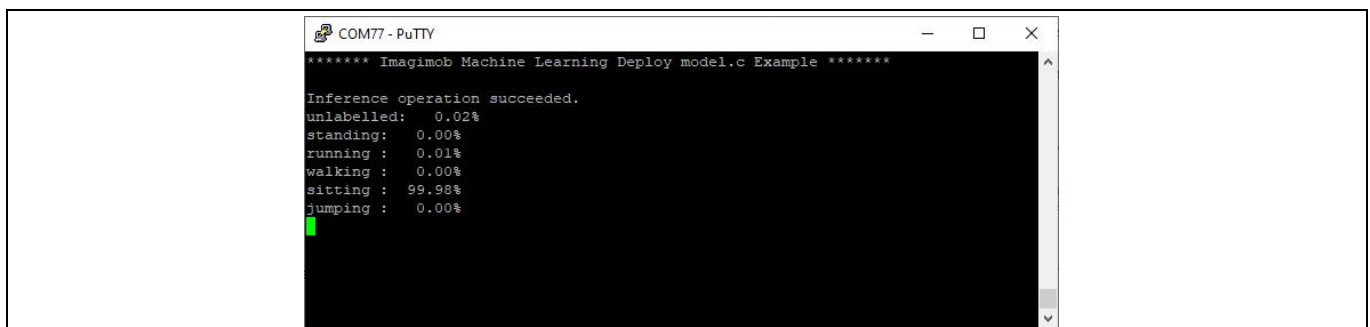

Figure 48 Inferencing result
- The terminal will display the inferencing result as shown in Figure 48. The example uses Human Activity Recognition model.